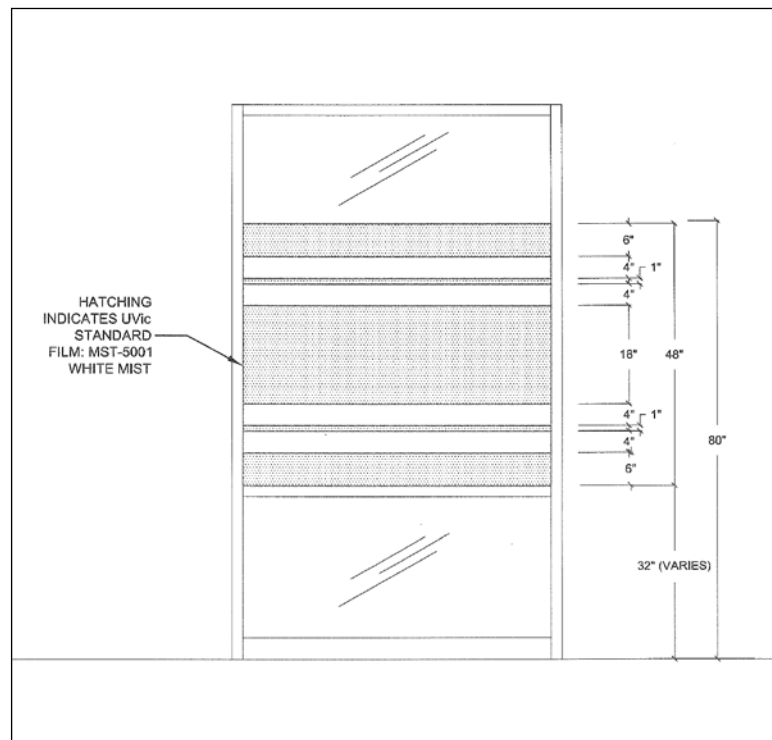

Figure 08 80 00-1
3. Figure 08 80 00-1 represents an example of a window film installation. The Facilities Management Interior Modification Services Department will collaborate and assist with film application locations and design details. Final design approvals will be made by the Manager of Interior Modification Services and/or the Director of Project Management Services.